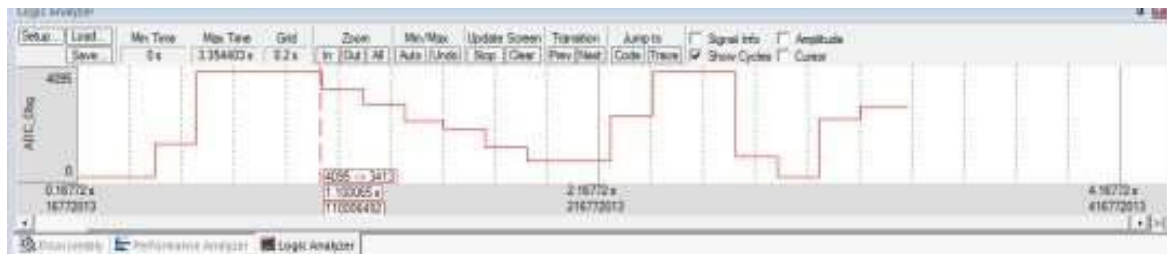

Figure 21: Simulating the Port and A/D Conversion using Logic Analyzer
11. Keep transitioning to different values using this simulated potentiometer method. Your simulation should then resemble and close to Figure 21.